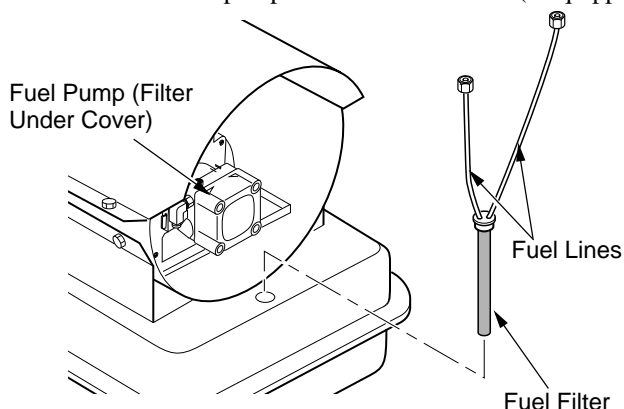

Figure 17 - Removing Tank Fuel Filter
1. Disconnect fuel lines from pump and fuel filter canister (if equipped) with 7/16" wrench (see Figure 17).